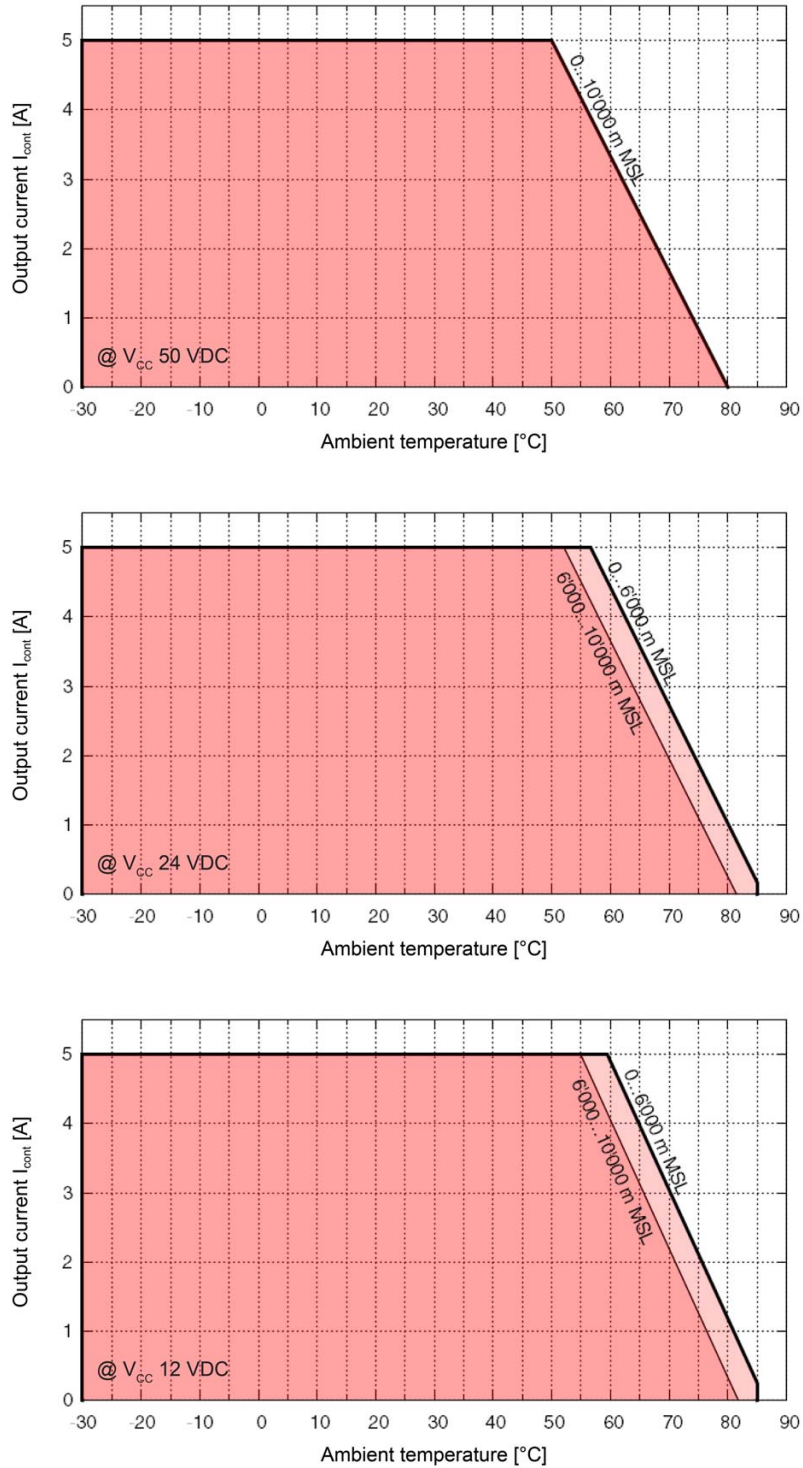

Figure 2-2 Derating of output current
Extended range ¹⁾	+50...+80 °C; Derating: –0.167 A/°C (→Figure 2-2)
Additional derating with inserted extension card: Ambient temperature less 5 °C (→Figure 2-2) ⁴⁾
- 4) Derating further increases with an inserted extension card. For the actual value, consult →Figure 2-2 and shift the graph horizontally to the left by the specified value.